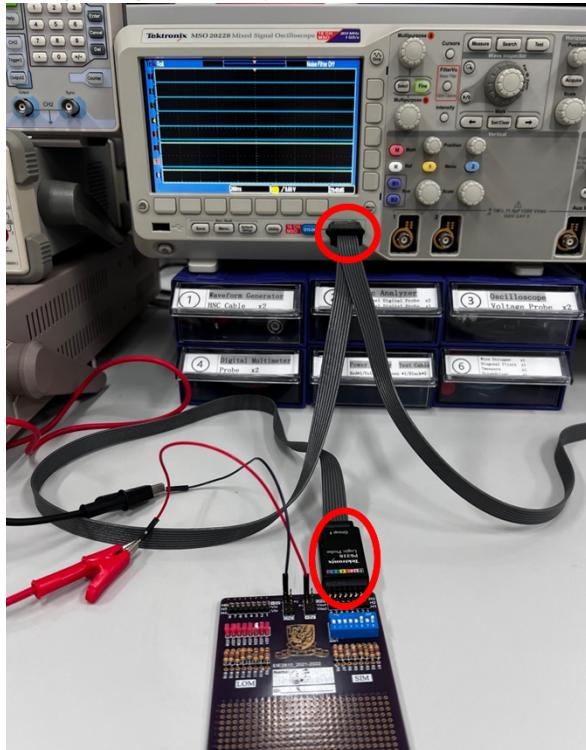

Figure 10. Probes in a logic analyzer.
- Connect the SIM output pins with the logic analyzer through the socket (ref. Figure 10). Before the connection, make sure that the SIM is powered off. The ground signal of the SIM should be connected to the GND of the logic probe. As you can see from the requirement on the socket, NEVER exceed the voltage range of $\pm 40V$.